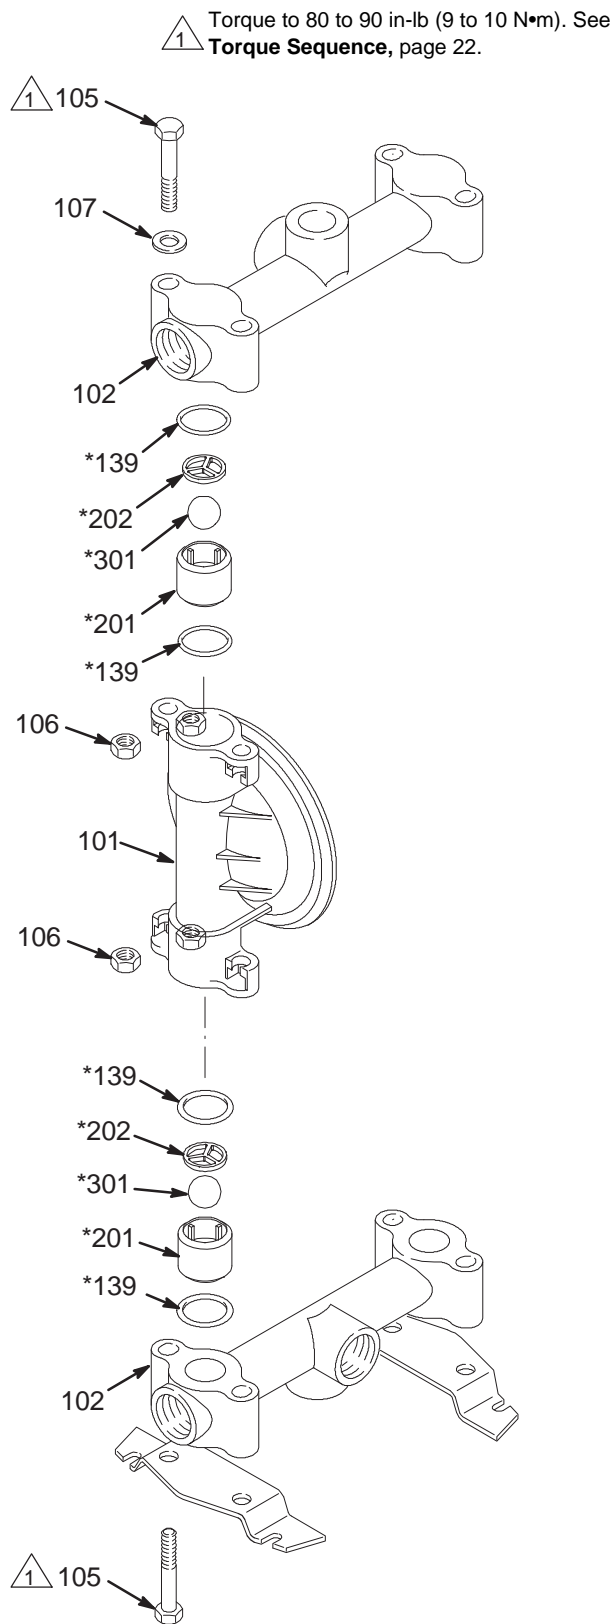

Fig. 9
NOTE: Make sure all the check valve parts stay in place. See FIG. 9 on page 16.
9. Make sure all the check valve parts are in place. See on FIG. 9, page 16.
10. Reinstall the fluid covers (101) and manifolds (102), and torque the fluid cover and manifold bolts (105) to 80 to 90 in-lb (9 to 10 N-m). See **Torque Sequence**, page 22.
3. Unscrew the four bolts (105), washers (107), and nuts (106) holding the top manifold (102) to the covers (101). Lift the manifold off the pump. See FIG. 9.
4. Remove the outer o-ring (139*), ball stop (202*), ball (301*), ball guide (201*), and inner o-ring (139*) from each of the covers (101).
5. Turn the pump over. Remove the bolts (105), nuts (106), feet (108) and bottom manifold (102).
6. Remove the outer o-ring (139*), ball guide (201*), ball (301*), ball stop (202*), and inner o-ring (139*) from each of the covers (101).
8. Reassemble. Follow all notes in FIG. 9. Be sure the ball checks are assembled **exactly** as shown.
5. Make sure all the check valve parts are in place. See FIG. 9 on page 16.
6. Install the manifolds (102), and torque the manifold bolts (105) to 80 to 90 in-lb (9 to 10 N·m). See **Torque Sequence**, page 22.